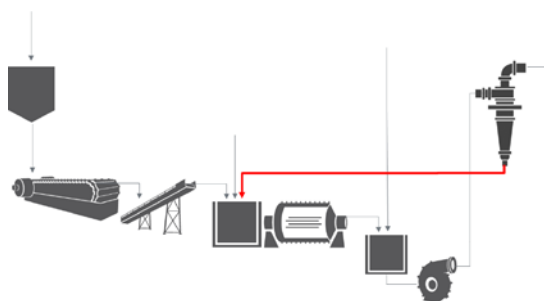

Figure 9: Single stage rod grinding and single classification circuit with circulating load shown in red.
2. Closed circuit: Material of the required size is removed by wet classification and the oversize returned to the mill feed for further processing, typical circuit shown in Figure 9. No effort is made to achieve the required size reduction in a single pass, instead, material is removed from the circuit as soon it reaches the required size.